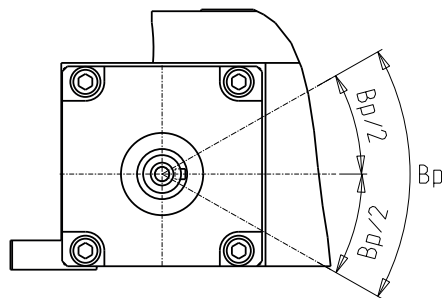

Fig. 7 Cam dwell period.
- The input shaft notches are in the position shown in Fig. 7 when the table is halfway through its dwell period.